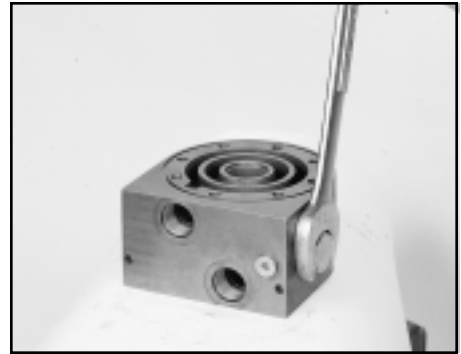

Figure D16
1. Remove the plugs (12) on the center block (9). SEE FIGURE D16.